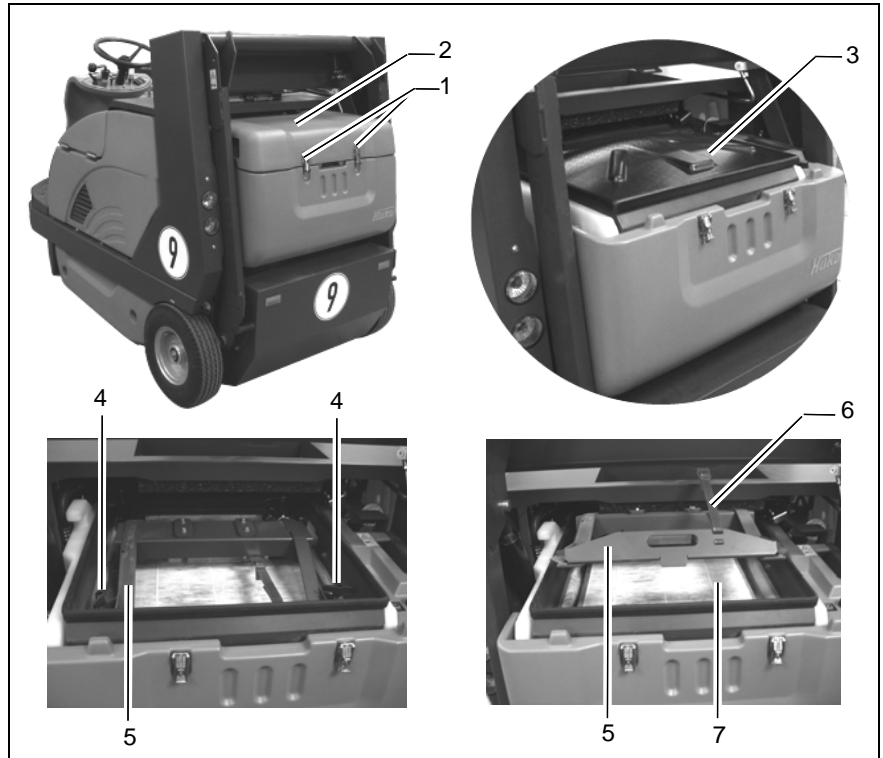

Fig.15
- Open quick-release locks (Fig. 15/1) and remove cover (Fig. 15/2).
- Remove cover (Fig. 15/3) of the filter installation.
- Loosen wing screws, four peaces, (Fig. 15/4) and remove.
- Fold back frame (Fig. 15/5) and hook frame (Fig. 15/5) at indicated position by rubber fastening (Fig. 15/6).
- Remove plate filter (Fig. 15/7).